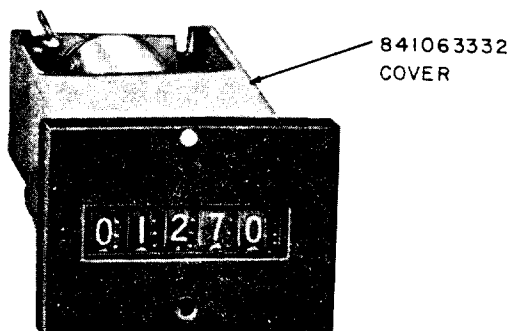

Fig. 4—19A Register With Cover
2.09 Operated Armature Gap: Fig. 4, (C)—With the armature electrically operated, the gap between the armature and the core at the closest point shall be
2.10 Register Cover Assembly Fit: The register cover (Fig. 4 and 5) assembly shall be held firmly in position on the register.